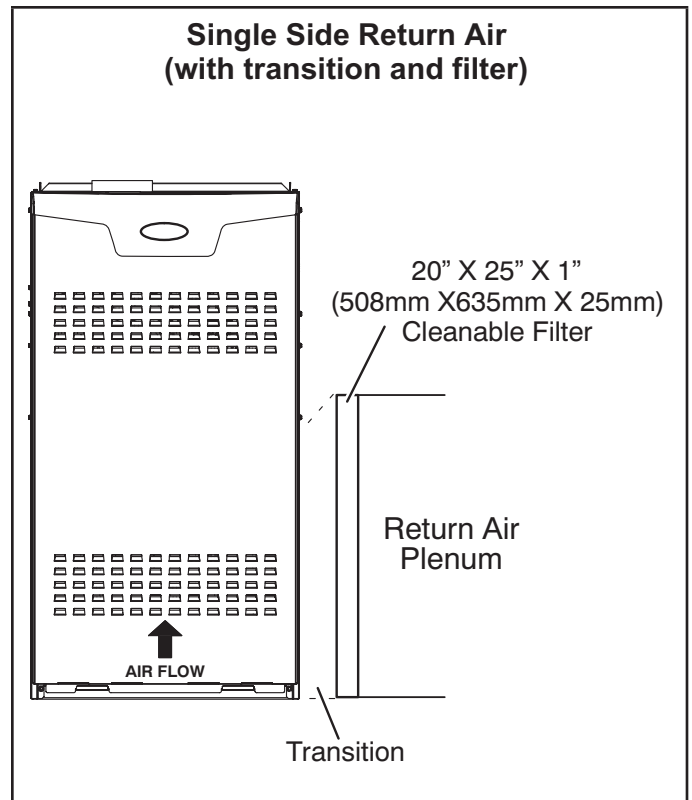

FIGURE 8
- 1 - Single side return air with transition to accommodate 20 x 25 x 1 in. (508 x 635 x 25 mm) cleanable air filter. (Required to maintain proper air velocity.) See figure 8.